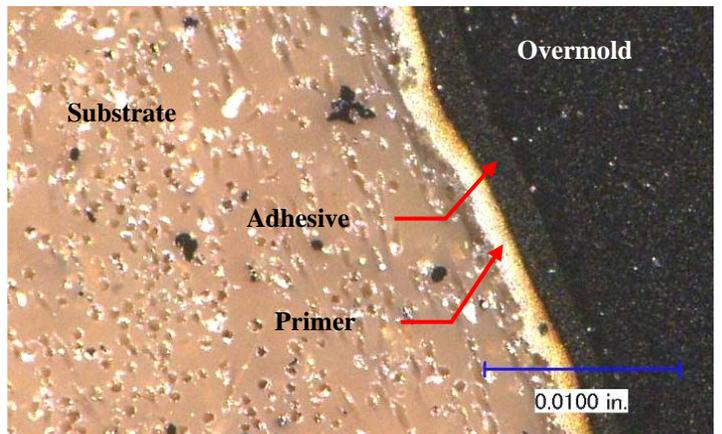

Figure 5: Overmold cross-section.
- Overmold layer interfaces (*Figure 5*)